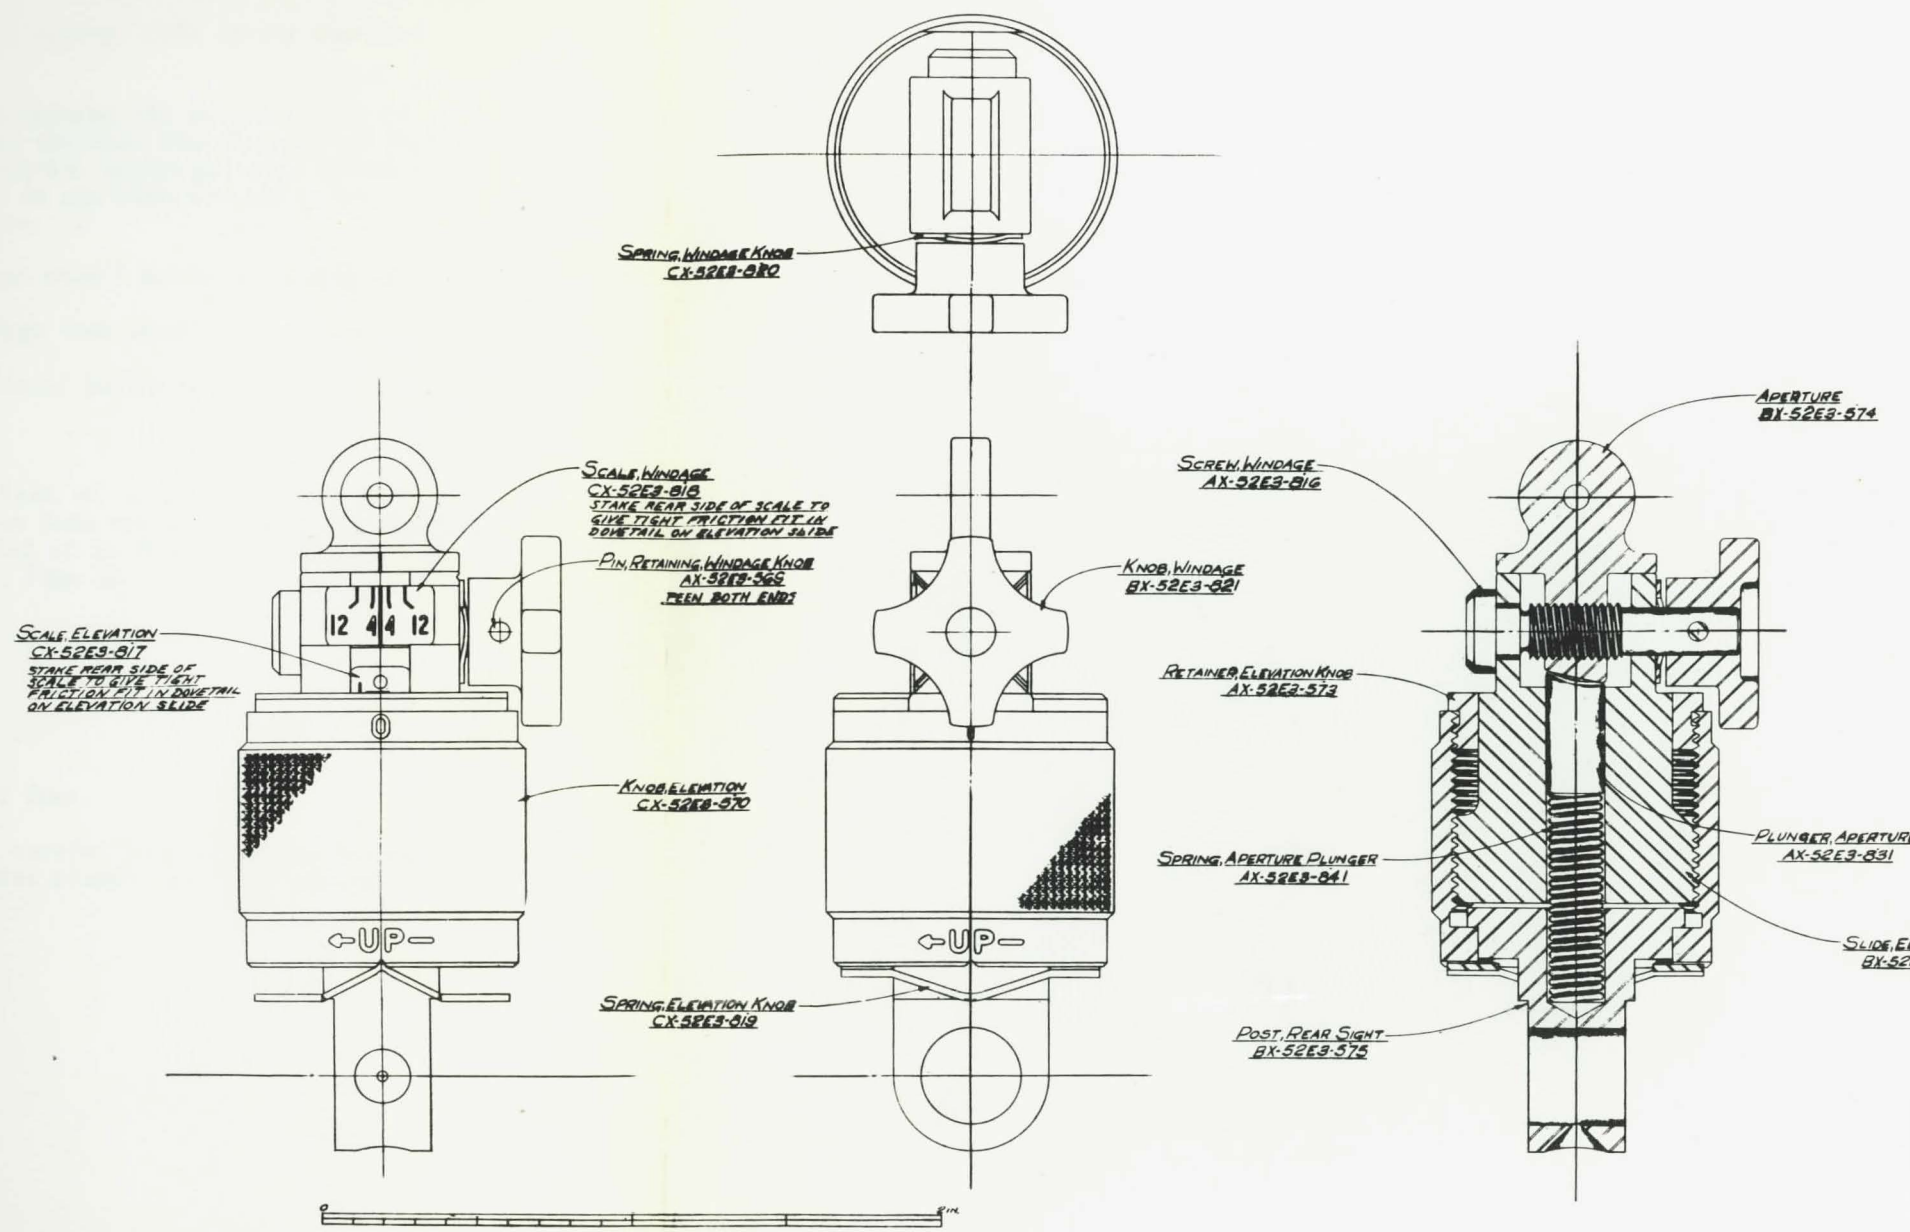

FIG. 8 - REAR SIGHT ASSEMBLY
- a. The rear sight is a unit assembly, to be taken apart only for repairs. See Fig. 8, Page 18.
- a. Holding elevation slide with scales face up, place elevation knob retainer over scales, threaded end first, then insert, aperture threaded portion into elevation slide with witness line showing. See Fig. 8, Page 18.
- e. Assemble parts listed in items c and d with scales and rear sight post plunger detent on elevation slide showing as in front view of rear sight assembly Fig. 8 Page 18. Turn elevation slide clockwise into elevation knob as far as it will go to assure proper mating of threads, then assemble elevation knob retainer. Grip elevation knob, and using a small open end wrench, tighten elevation knob retainer.